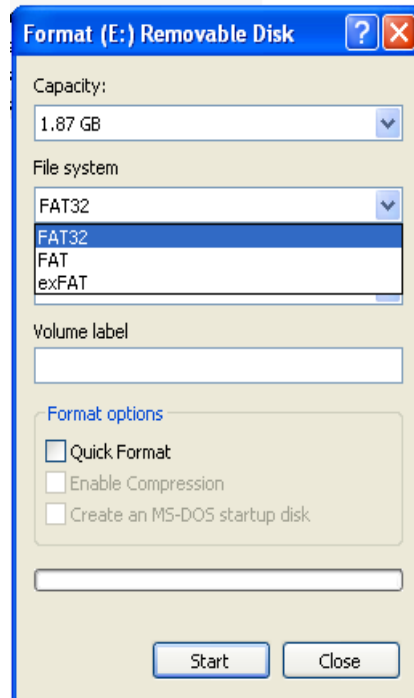

Fig. 2.9: Format settings, when formatting CF card for a CR1000 data logger.
3. Insert the formatted Compact Flash II card in the data card slot. The data logger will now assign space for the associated tables on the card. While it does this the status diode flashes red (5-15 minutes, depending on the size of the data card). Wait until the diode stops flashing. If an error occurs the diode will turn orange right away when the card is placed in the module! If the diode turns orange, then remove the card and either format it again or replace it with another formatted card. When the Status LED is turned off, the card is ok, see figure 2.9.